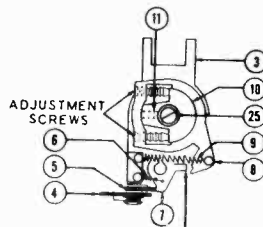
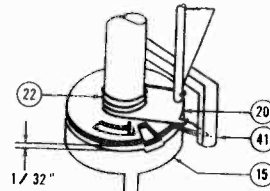

Fig. 6
Fig. 7
- b. Note two Adjustment Screws (See Fig. 6). If needle is setting too far out on edge or off record, loosen the back screw about 1/4 turn and tighten front screw to lock adjustment in place.
3. Hinge Bearing (10) out of relation with Pick-up Arm Locator (12). This may be adjusted as follows:
- a. Place the Pick-up Arm (1) on the rest post and turn Control Knob (37) to "OFF" position.
- c. Lift Pick-up Arm (1) and note Set Screw (11) (See Fig. 6). Note: It may be necessary to line up hole in Adjusting Ring (8) by moving Adjustment Screws, to gain access to Set Screw (11). After loosening Set Screw (11), turn Ratchet Arm (15) until pin on upper side reaches end of slot closest to leg on Set Down Locator (20) (See Fig. 7).
- d. Place a 1/32" shim between Ratchet Arm (15) and Set Down Locator (20). Take up all the play between the parts by pressing up on the bottom of Ratchet Arm (15) and down on the top of Hinge Bearing (10). Be sure that Hinge Bearing (10) is turned counterclockwise as far as it will go. Now tighten Set Screw (11).
- e. Recheck set down point of Pick-up Arm (1) by referring to items 1, 2a, b and c.
4. If Pick-up Arm continually lands in 12" position, it may be due to Index Lever (7) not returning to 10" record position and may be corrected by the following:
- a. Stop record changer in mid-cycle at the point when the Lift Arm (58) has moved as far out as it will go and is about to start to move back to its starting point.
- b. Lift Pick-up Arm (1) and see if there is a gap of at least 1/64" between the end of the leg of the Index Lever (7) and outer tip of the Adjustment Ring (8). This space allows Index Spring (6) to pull Index Lever against Index Cam (5). (See Fig. 6.)
4. Ratchet Arm (15) not disengaging from the Set Down Locator (20) when a cycle is completed. There should be a space of approximately 1/32" between the above parts. See Fig. 7 as well as section entitled "To Disassemble Pick-up Arm Mechanism" on Page 6.
5. Check for binding between Ratchet Arm (15) and Set Down Locator (20).
- b. If Index Lever (7) does not slide down incline, file about a 1/64" bevel on corner of Index Lever (7). (See Fig. 6 for location.) Be careful not to round off end.
- a. Allow a 12" record to drop to the Turntable (34) as described instruction section on Page 1.
- a. Raise the Pick-up Arm (1) and note Height Adjusting Screw (25) (See Fig. 6).
- b. Hold Lift Rod (23) steady and turn screw clockwise to lower Pick-up Arm (1) and counterclockwise to raise arm.